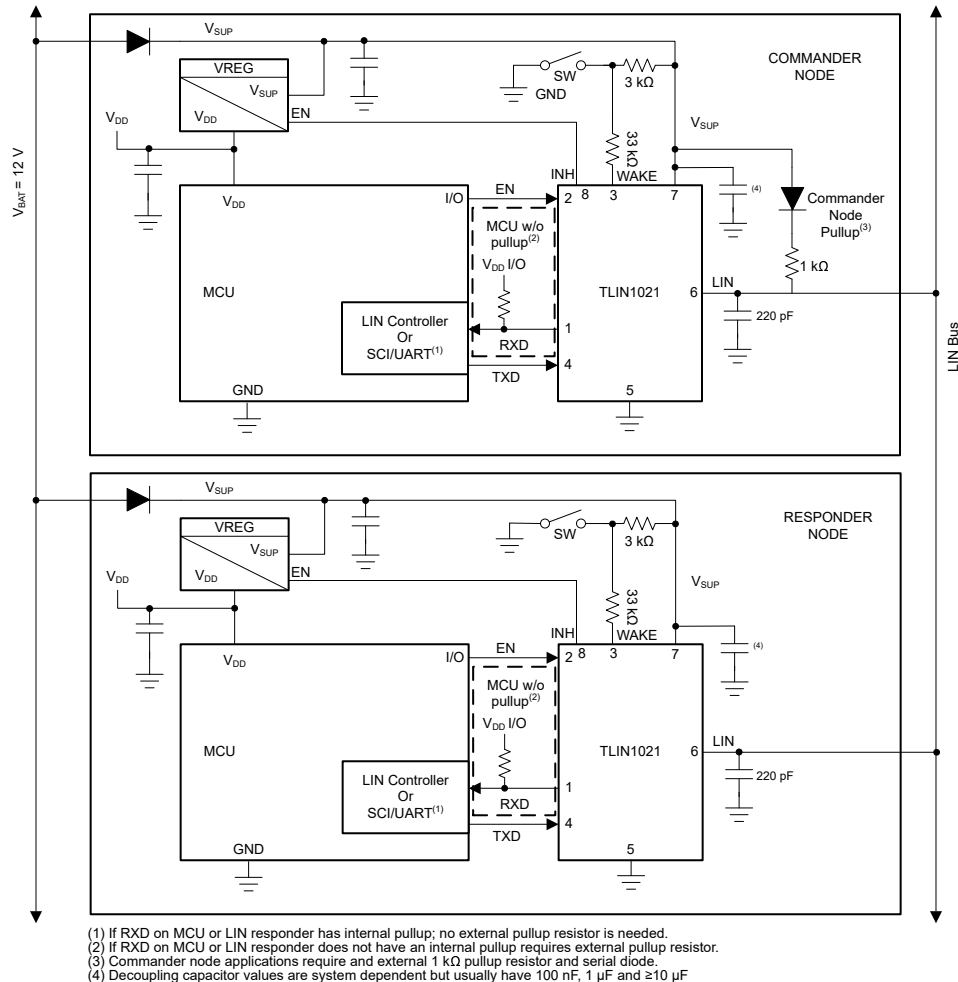

Figure 10-1. Typical LIN Bus
The device integrates a 45 kΩ pull-up resistor and series diode for responder applications. For commander applications, an external 1 kΩ pull-up resistor with series blocking diode can be used. Figure 10-1 shows the device being used in both commander and responder applications.
- **Pin 2 (EN):** EN is an input pin that is used to place the device in low-power sleep mode. If this feature is not used the pin should be connected to the supply voltage for the controller through a series resistor using a pull-up value between 1 k Ω and 10 k Ω . Additionally, a series resistor may be placed on the pin to limit current on the digital lines in the case of an over voltage fault.
- **Pin 6 (LIN):** The LIN pin connects to the TLIN1021-Q1 to the LIN bus. For responder applications a 220 pF capacitor to ground is implemented. For commander applications an additional series resistor and blocking diode should be placed between the LIN pin and the V_{SUP} pin, see Figure 10-1.